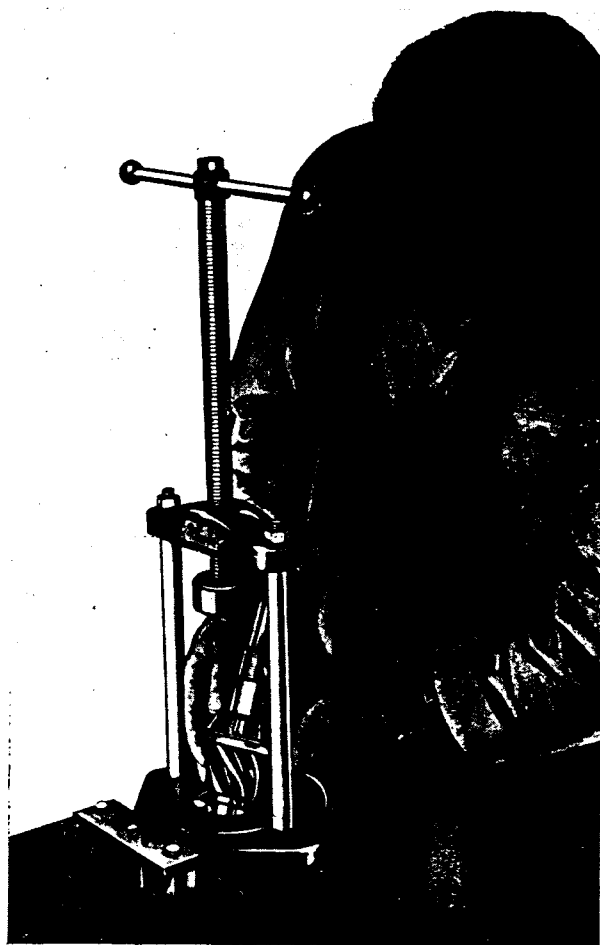

FIG. 17
2. Bend back tabs of lock washer (46), then, using wrenches FTB.6 remove lock nuts (45) and thrust washer (44) as shown in Fig. 16. Drive shaft Part No. 4028 or 4381 held over splines of pinion shaft will facilitate removal of lock nuts. Front bearing cone and roller assembly (43) can now be withdrawn if flange of sleeve (40) is located in Service Tool FT4221 instead of adaptor plate illustrated in Fig. 17.
Mount pinion (37) and bearing (38) in Service Fixture FT. 4221 and withdraw bearing, having entered bevel pinion into pressure adaptor plate Code 2, as shown in Fig. 17.